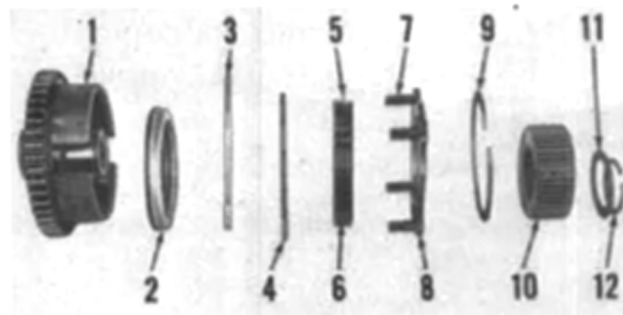

Fig. 165 - Exploded view of typical pto clutch and component parts.
5. Driven plate (6)
6. Driven disc (5)
7. Return springs (6)
pair of "C" clamps, compress the piston return springs and remove snap ring (2). Then, remove clutch, backing plate (8 - Fig. 165), return springs (7), driven discs (6) and drive plates (5). There are two driven plates between each clutch disc. Clutch is equipped with eight driven plates, five clutch discs and six return springs.